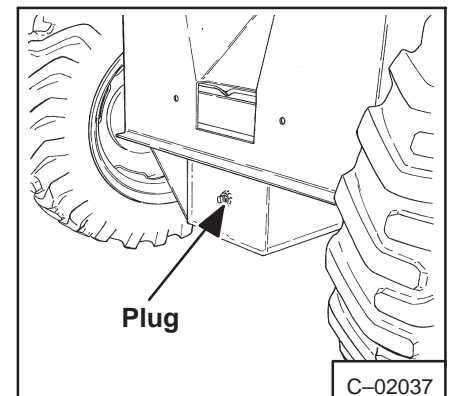

Fig. 1-33 Chaincase Check/Fill Plug
2. Remove check plug (Fig. 1-33) located at the front of the transmission housing.